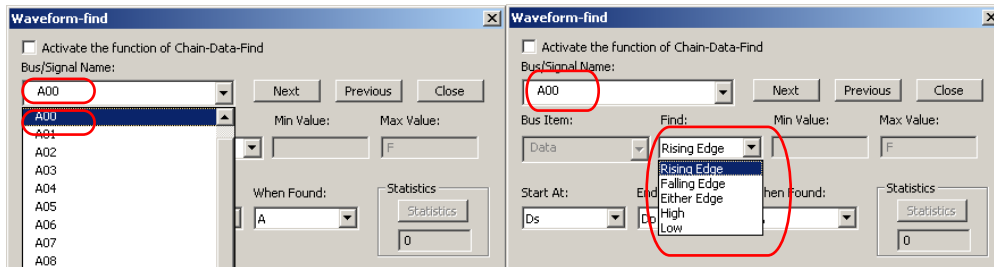

Fig 3-121: Waveform-find Dialog Box of the Logic Signal
- Step 3.** Choose the character for Find. The list of characters depends on whether it is a Bus, Signal, or the protocol analyzer such as I2C, UART, SPI, etc., which is being searched (See Figs 3-121, 3-122, 3-123, 3-124, 3-125, 3-126, 3-127, 3-128 and 3-129).